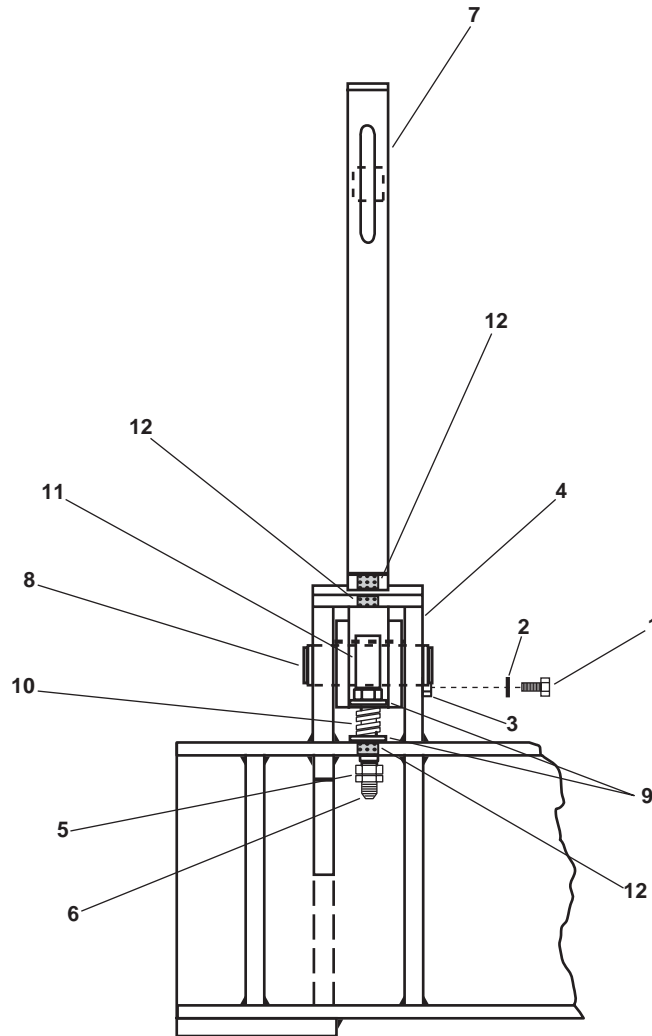

Figure 8. Mechanical Dog, Spring, and Bushing Replacement
5. Remove the two bolts (figure 8, item 1), the two lockwashers (figure 8, item 2), and the retaining bar (figure 8, item 3) from the mounting bracket (figure 8, item 4). Discard the lockwashers.
6. Measure the distance from the bottom of the jam nut (figure 8, item 5) to the bottom of the bolt (figure 8, item 6). Record this information for use during installation. Tighten the jam nut by turning the jam nut clockwise to release tension on the mechanical dog (figure 8, item 7) and the mechanical dog wrist pin (figure 8, item 8).
7. Use a drift pin and knock the mechanical dog wrist pin (figure 8, item 8) out of the mounting bracket (figure 8, item 4).
8. Remove the mechanical dog (figure 8, item 1).
9. Remove the jam nut (figure 8, item 5) from the bolt (figure 8, item 6).
10. Remove the bolt (figure 8, item 6), the two flat washers (figure 8, item 9), and the spring (figure 8, item 10) from the mounting bracket (figure 8, item 4).
11. Remove the bushing (figure 8, item 11) from the mechanical dog (figure 8, item 7) using a drift pin. Discard the bushing.
12. Remove the three bushings (figure 8, item 12) from the mounting bracket (figure 8, item 4) using a drift pin. Discard the bushings.
1. Install three new bushings (figure 8, item 12) in the mounting bracket (figure 8, item 4) using a brass hammer.
2. Install a new bushing (figure 8, item 11) in the mechanical dog (figure 8, item 7) using a brass hammer.
3. Install two flat washers (figure 8, item 9), the bolt (figure 8, item 6), the spring (figure 8, item 10), and a new jam nut (figure 8, item 5) in the mounting bracket (figure 8, item 4). Do not tighten the jam nut at this time.
4. Position the mechanical dog (figure 8, item 7) in the mounting bracket (figure 8, item 4) and install the mechanical dog wrist pin (figure 8, item 8).
5. Tighten the jam nut (figure 8, item 5) until the distance from the bottom of the jam nut and the bottom of the bolt (figure 8, item 6) is the same distance recorded in step 6 of Removal. The jam nut should be tight enough to allow movement of the mechanical dog without excessive force. Adjust the jam nut as necessary.
6. Install the locking bar (figure 8, item 3) on the mounting bracket (figure 8, item 4) and secure it with the two bolts (figure 8, item 1) and two new lockwashers (figure 8, item 2).